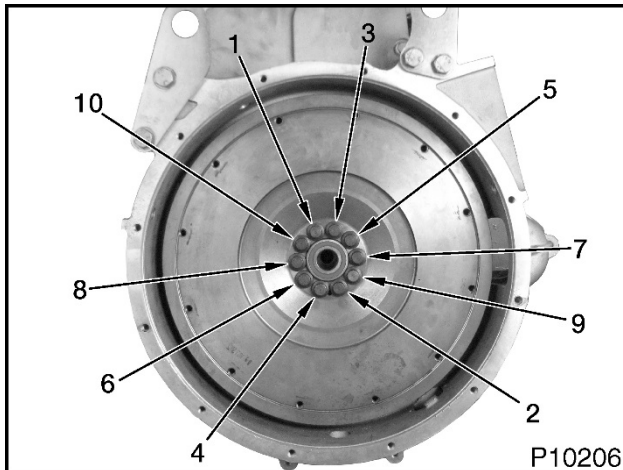

Figure 1. Flywheel and Flexplate Assembly Bolt Torque Sequence (Typical)
8. Using torque wrench, tighten kit-supplied flange bolts using torque sequence (Figure 1) as follows: